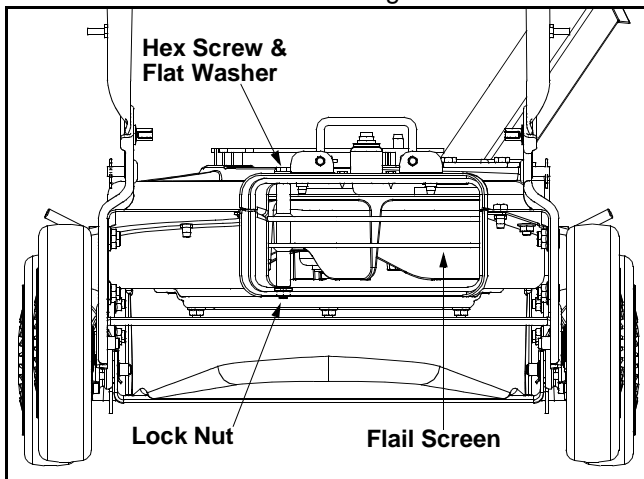

Figure 11
- Remove the bag or blower chute from the unit as instructed in the OPERATION section to obtain access to flail screen. See Figure 11.
- Remove hex screw and flat washer on top of rear housing mounting bracket and the lock nut that secures flail screen. See Figure 11.
- Remove lock nut that secures flail screen to the lower housing. The flail screen does not have to be removed. Refer to Figure 11.